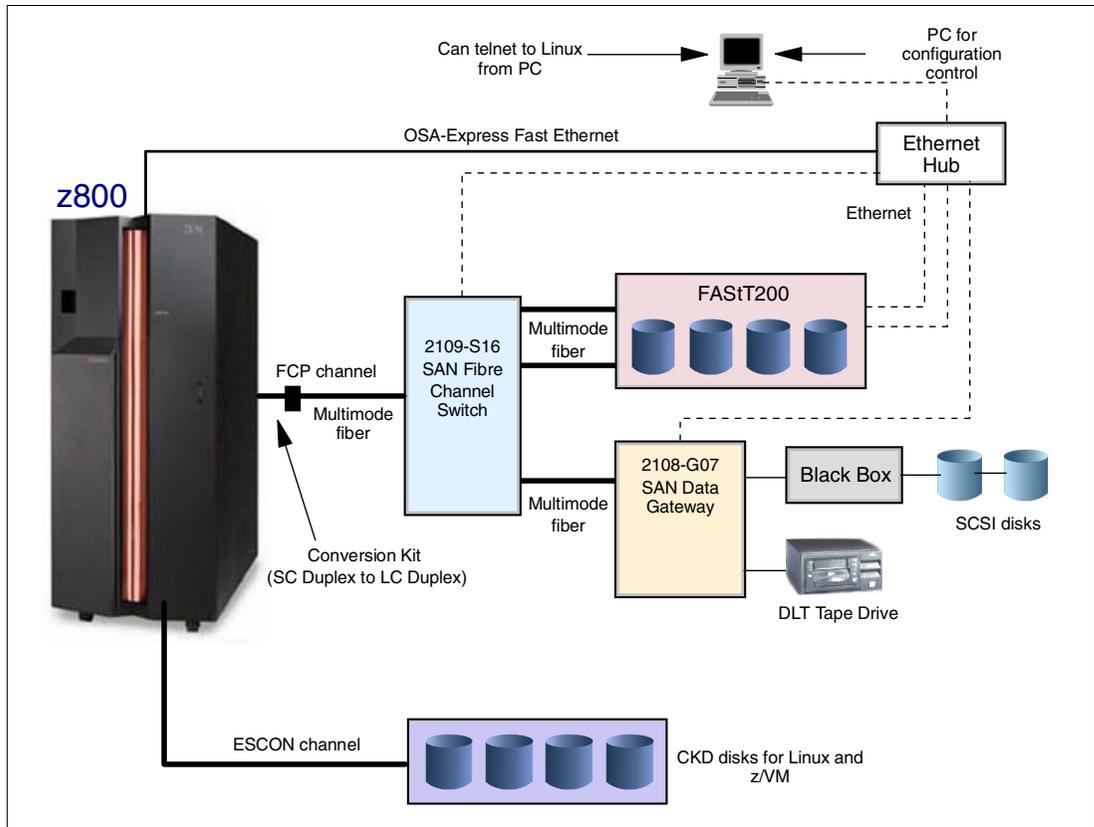

Figure 11 Hardware for initial ITSO operation
This section provides a short description of the devices we used to demonstrate the necessary steps and definitions to set up our zSeries FCP environment, shown in Figure 11 on page 20.
Figure 11 on page 20 provides an overview of the hardware configuration we used while writing this paper. It is not intended to represent physical sizes, but rather to delineate a typical small FCP environment. The FC Switch, Data Gateway, and FASTT200 are all small, desktop units.
- ▶ Not shown in Figure 11 on page 20 are two null-modem serial port cables: one cable with an RJ45 connector on one end and 9-pin D-shell on the other end, and the other cable with 9-pin D-shell connectors on both ends. These cables are used with the FAStT200 and Gateway for initial setup (primarily to assign IP addresses to the units). One cable was supplied with the FAStT200 unit.
We set up our devices, as shown in Figure 11 on page 20, in an orderly way and gathered the mapping information we would need later for Linux. We initially installed the devices using default settings whenever possible. For this setup we used no LUN masking or zoning—meaning that any Linux system with access to the devices could access *all* devices. (Expressed another way, we took the simplest setup we could devise.)
You need to connect **telnet** sessions and other applications between a PC (running a current release of Microsoft Windows and using an Ethernet adapter) and several boxes, as shown by the dotted lines in Figure 11 on page 20. This can be done using a public LAN, provided you have assigned IP addresses you can use for the boxes.
The Black Box converter, shown in Figure 11 on page 20, is transparent to the rest of the hardware and had no address or other setup associated with it. It was required because the Data Gateway has only differential SCSI connections, and our old SCSI disk drives are single-ended SCSI devices. Our DLT tape drive is differential SCSI and connected directly to one of the SCSI adapters in the Gateway. All these connections use 68-pin cables.